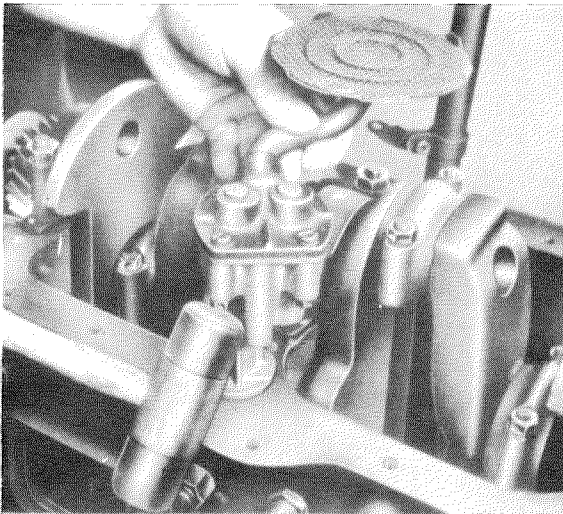

Figure 18-11/1
2. Unscrew the hexagon screw securing the pump in the crankcase and take out oil pump. If the oil pump sticks in the bore of the crankcase, then drive it out carefully with a plastic hammer (see Figure 18-11/1).